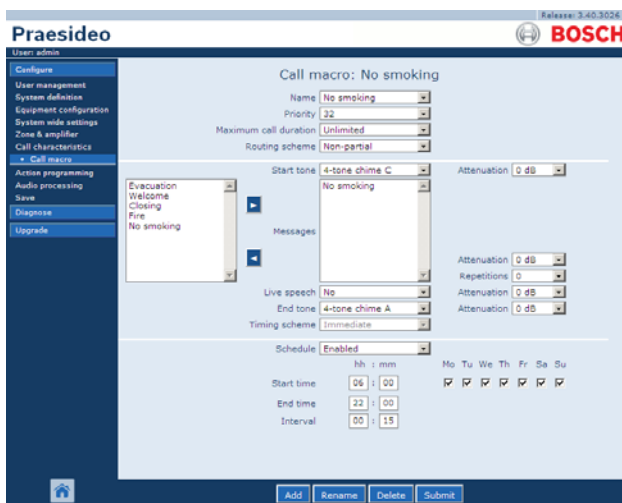

figure 46.2: Add call macro, step 1
- 1 Go to *Configure > Call characteristics > Call macro*. A screen similar to the one in figure 46.2 appears in the main frame of the web interface.